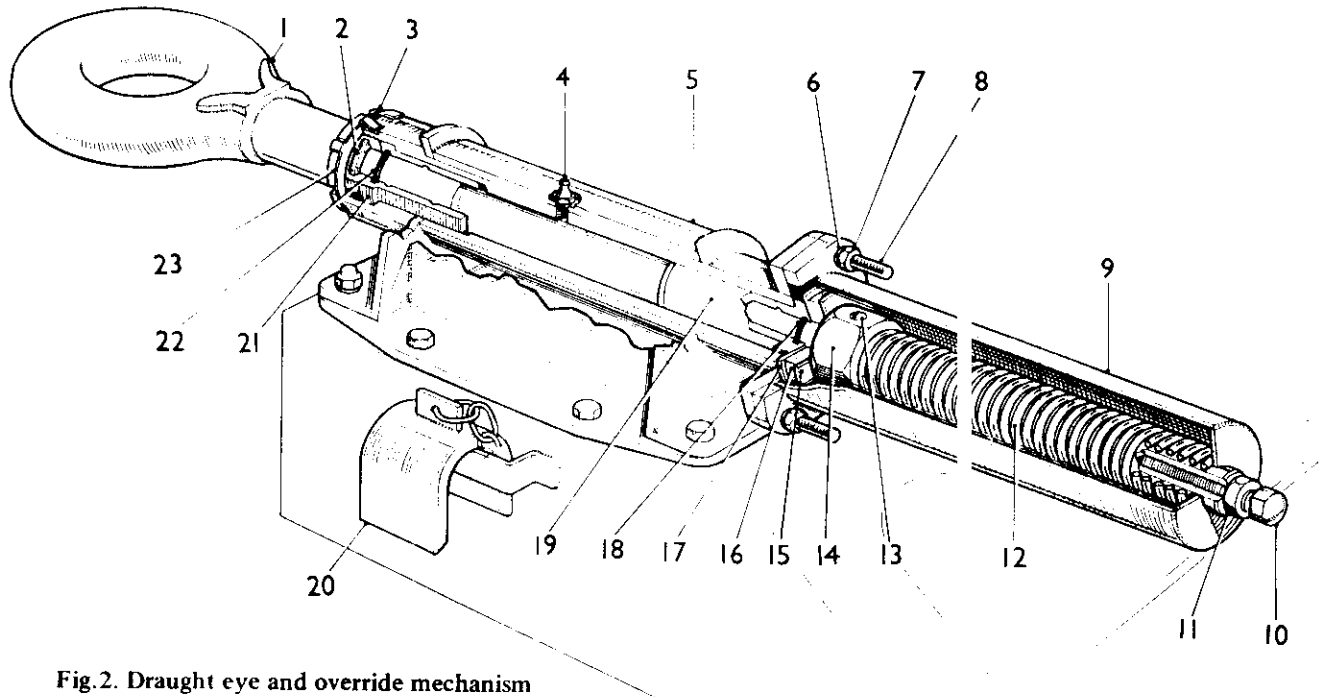

Fig. 2. Draught eye and override mechanism
3. The draught eye is mounted on top of the forward end of the drawbar and consists of a spring loaded draught eye and shaft (Fig. 2 (1)) operating in two bushes (19 and 21), which are mounted in a bracket assembly (5). The bracket assembly is charged with grease through a nipple (4) and 'O' rings (18 and 22) in the bushes and a wiper (2) in the cap (3) prevent leakage.
5. A reversing stop (20), normally slotted in a clip on the left hand side of the drawbar and attached to the trailer by a chain, must be positioned over the exposed part of the draught eye shaft to lock the mechanism when reversing the trailer.
17. The draught eye (Fig. 2.) should be examined and lubricated at regular intervals as follows:
- Apply two strokes of a grease gun to the nipple (4).